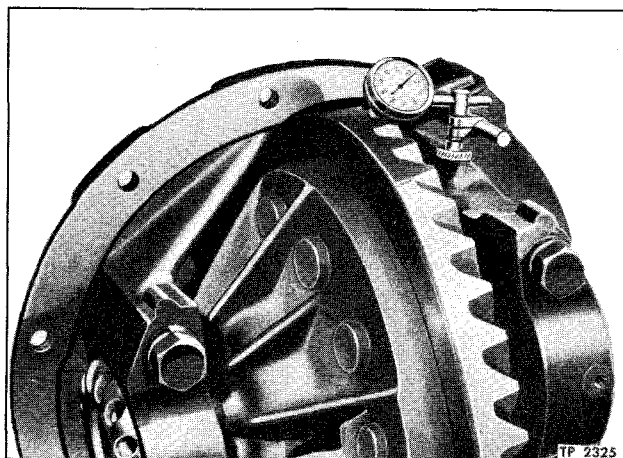

Figure 9—Checking Drive Gear Backlash (Typical)
If original gears are reinstalled in assembly, painting gear teeth will not indicate the same contact as new gears and can be misleading. Gears that have been in service for extensive periods, form running contacts due to wear on teeth. Therefore, the original shim pack (15) plus one .005" shim should be maintained to check backlash. Figure 9 shows typical method of checking backlash.
When new gears are to be installed, differential bearings and drive pinion bearings must be in proper adjustment before any attempt is made to adjust backlash. Check backlash with dial indicator as shown in figure 9, and adjust to obtain 0.006 - 0.012" lash. Adjust backlash and tooth contact in the following manner: